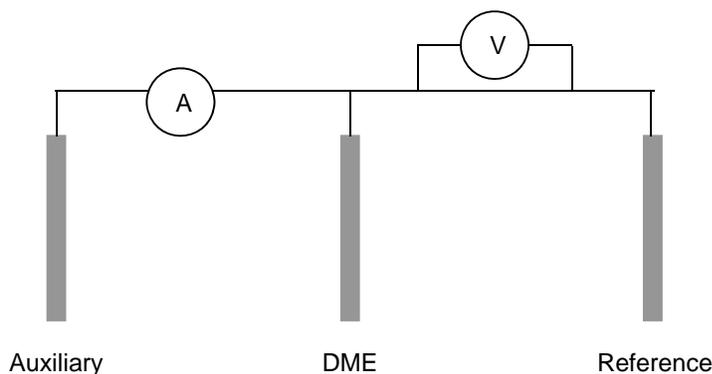

FIGURE 1.5 *Electrodes and circuits in polarographic cell*
3. *Auxiliary electrode* – provides a path through which current can flow and be measured; current and voltage cannot be measured in the same part of the circuit, so there are two circuits as shown in Figure 1.5; usually a platinum wire